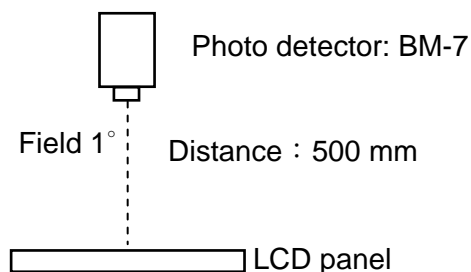

Fig. 6.1
- In the dark room around 300~700 lx, the equipment has been set for the measurements as shown in Fig 6.1.